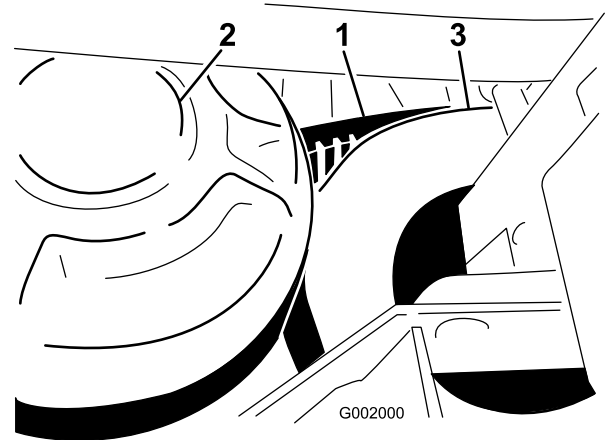

Figure 65
1. Rotate and route the belt over the secondary clutch (Figure 65).